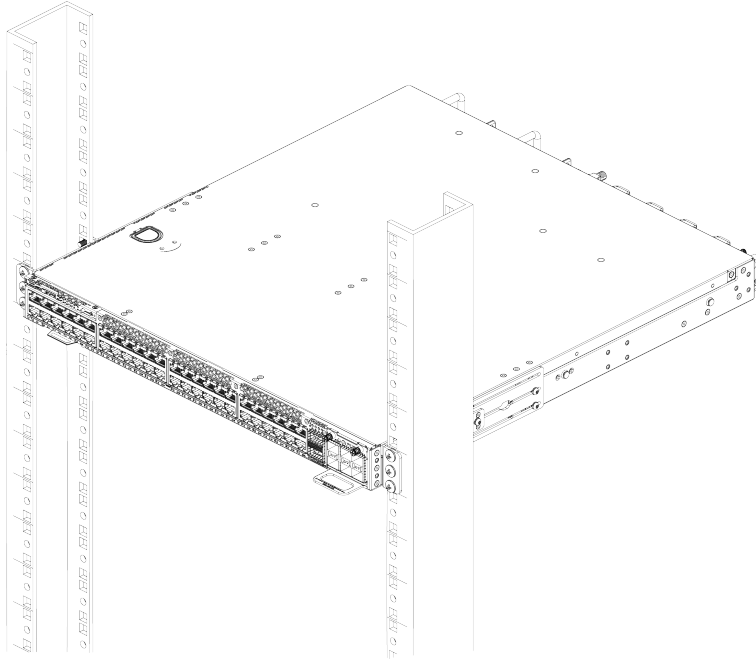
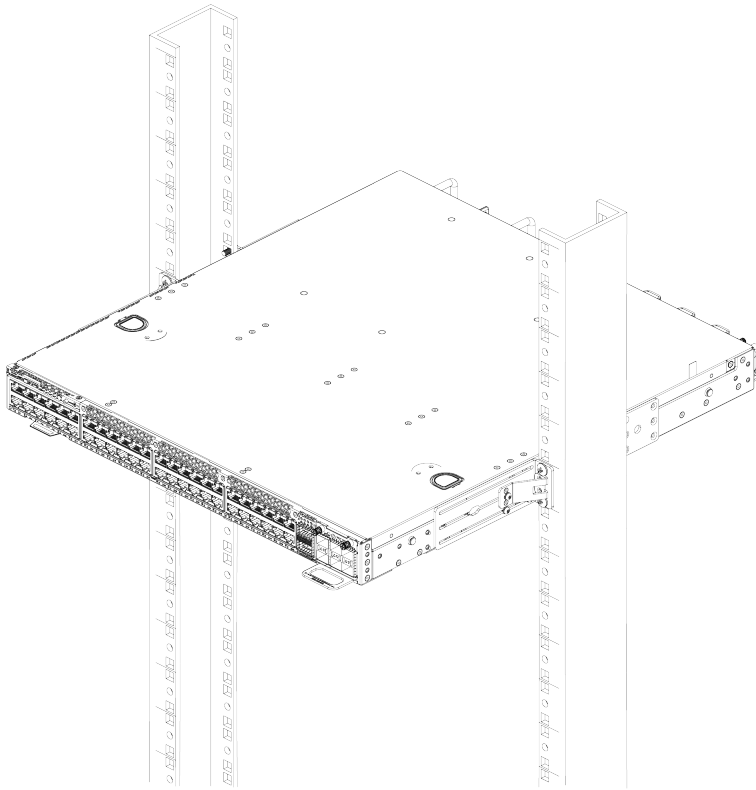

Figure 39: Two-Post Front Mount: Complete
Figure 40: Two-Post Mid-Mount: Complete
6. Secure the flanges (ears) on both sides of the switch to the rack posts, using screws that are appropriate for the rack. (Rack-mounting screws are not provided.) See Figure 39 and Figure 40 for the completed installations.